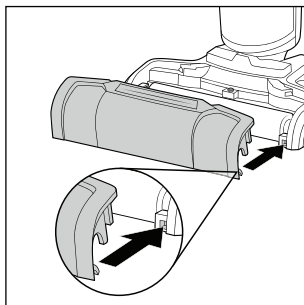

Fig. 41
- ♦ Replace the splash guard **7** by first aligning it with the bracket on the foot section **3** (see fig. 41).